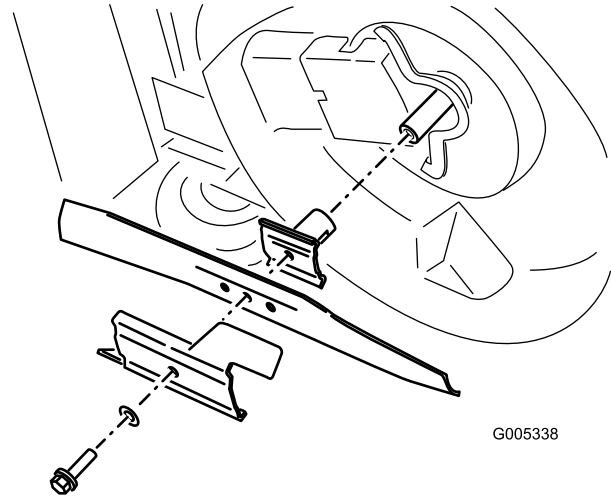

Figure 2
6. Install a sharp, balanced Toro blade and secure it with the fasteners you previously removed (Figure 2). Use a torque wrench to tighten the blade bolt to 60 ft-lb (82 N · m).